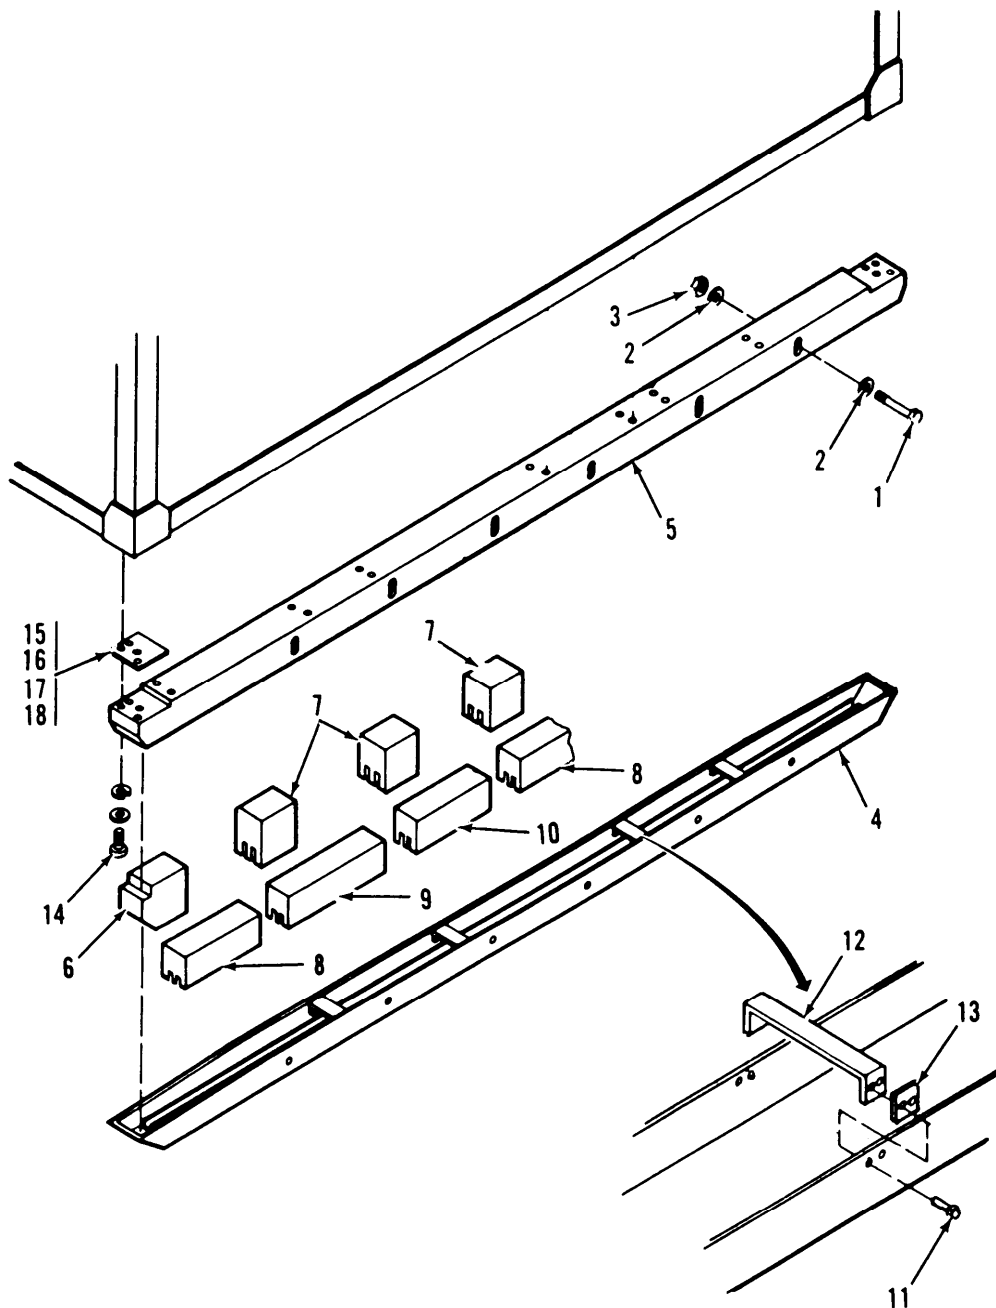

Figure 3-30. Skid Assembly Repair.
- a. Inspect. (Figure 3-30)
- b. Replace. (Figure 3-30)
- (1) Remove and retain six hex head bolts (1), twelve flat washers (2), and six nuts (3) attaching each skid assembly (4) to skid runner (5), and remove the skid assembly.
- (2) Remove any damaged shock mounts (6 and 7) and core (8, 9, and 10).